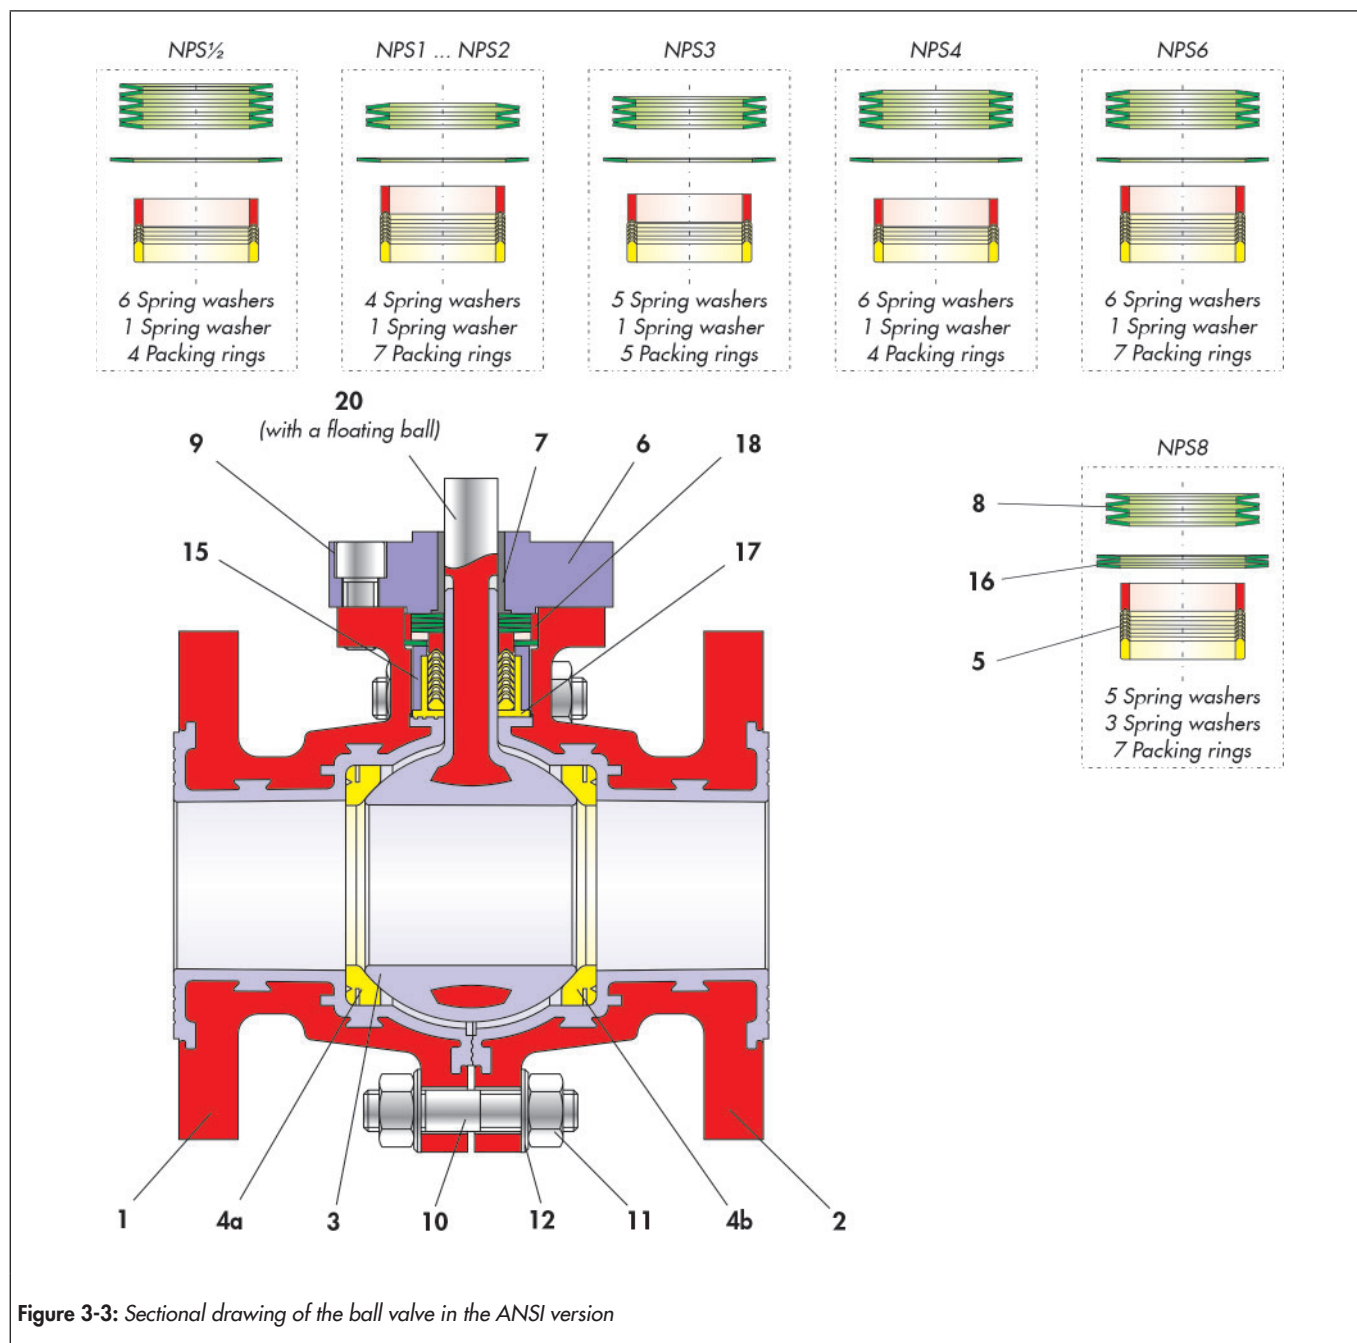

Figure 3-3: Sectional drawing of the ball valve in the ANSI version
- ⇒ Place the V-ring packing (5) in the PTFE bushing (17). The arrangement and quantity of the V-rings can be found on the drawing, see Figure 3-3.
- ⇒ Push the bushing (15) carefully over the packing (7) and the PTFE bushing (17).
- ⇒ Place the spring washer(s) (16) on the bushing (15). The location and quantity of the spring washer(s) can be found on the drawing, see Figure 3-3.
- ⇒ Place the centring ring (18) on the spring washer(s) (16).
- ⇒ Insert the set of spring washers (8) in the centring ring until reaching the bottom ring of the V-ring packing. The arrangement and quantity of the spring washers can be found on the drawing, see Figure 3-3.
- ⇒ Insert the bearing bushing (7) into the stuffing box flange (6).
- ⇒ Place the pre-assembled stuffing box flange on the body and adjust with screws (9).